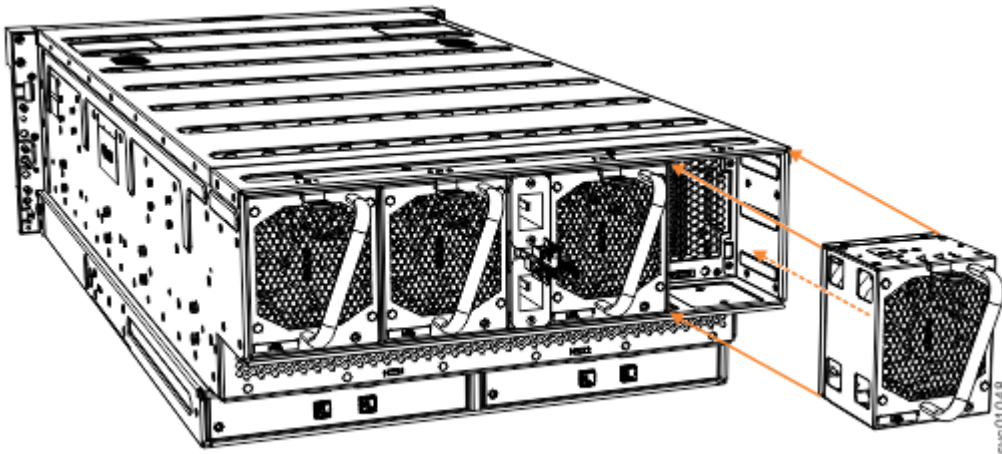

Figure 145. Remove and replace a fan module
3. Use the handle to pull the fan module out of the expansion enclosure chassis, as shown in Figure 145 on page 185.
6. Carefully insert the fan module into the chassis until it clicks in place, as shown in Figure 145 on page 185.